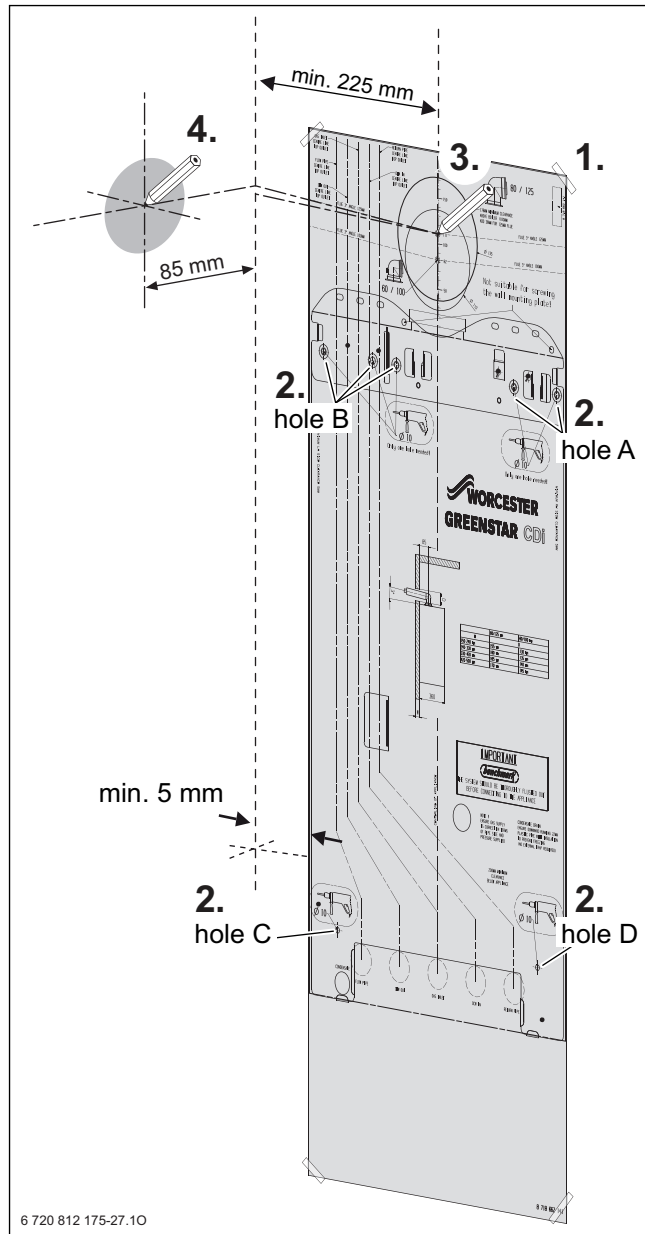

Fig. 27 Mounting template
- Fig. 27 shows the relative positions of the flue and the fixing of the wall mounting plate, the hanging bracket and pre-plumbing manifold.
- Follow the Fig. 27 to mark the centre of the flue for rear outlet (3) or for side outlet (4).